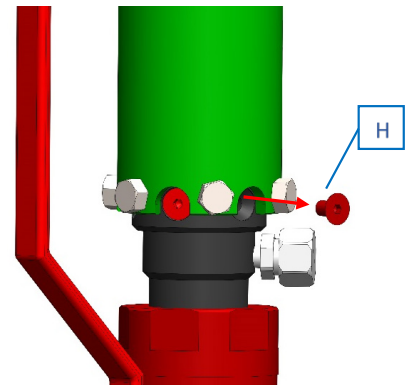

FIGURE 7
5. With Jack tube held in place with 6 hex head bolts, the flat socket head capscrews (H) can be removed (use 7/32" hex key wrench, supplied). The flat socket head capscrews are RED and will be visible between the hex head bolts around the bottom of the jack tube. See fig 7.